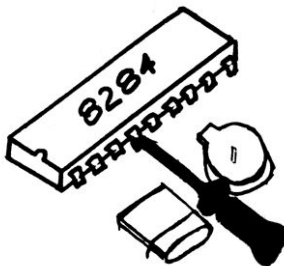

Figure 11
- 16 Locate the computer's clock chip which is marked 8284 and attach the EZ hook to pin 4. See figure 11.